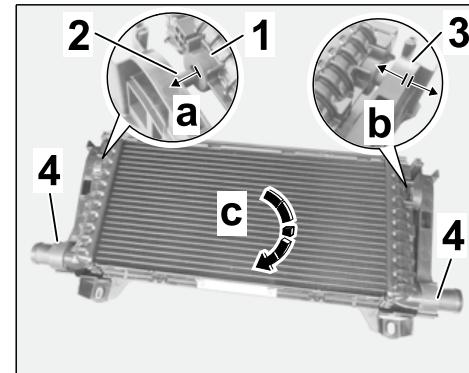

Figure 11
3.1.5 Push bottom rubber mounting at the left/right  $\Rightarrow$  Figure 11-1- onto the pins of the retaining frame  $\Rightarrow$  Figure 11-2- ( $\Rightarrow$  Figure 11-a-). Press side section of retaining frame  $\Rightarrow$  Figure 11-3- aside if necessary  $\Rightarrow$  Figure 11-b-.
Swivel radiator back  $\Rightarrow$  Figure 11-arrow c- until the top rubber mounting  $\Rightarrow$  Figure 11-4- engages securely in the brackets.